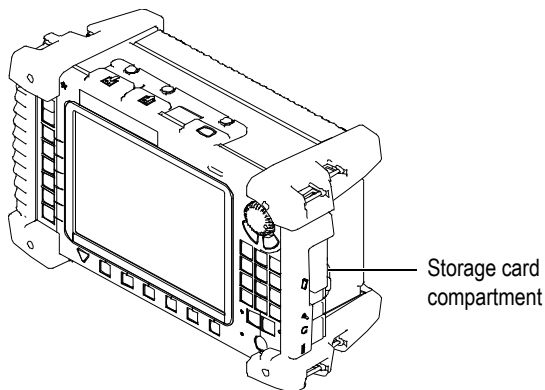

Figure 4-21 Inserting the storage card into its compartment
2. Insert the storage card containing the new software into the corresponding compartment on the right side of the OmniScan MX instrument (see Figure 4-21 on page 83).